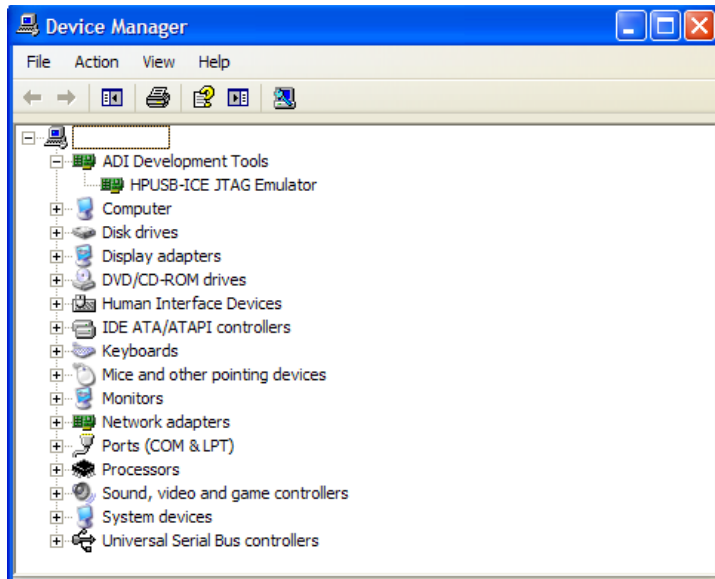

Figure 1-1. Verifying Driver Installation
1. Open the Windows **Device Manager** and verify that the HPUSB-ICE, HPPCI-ICE or USB-ICE appears under **ADI Development Tools** as shown in Figure 1-1.